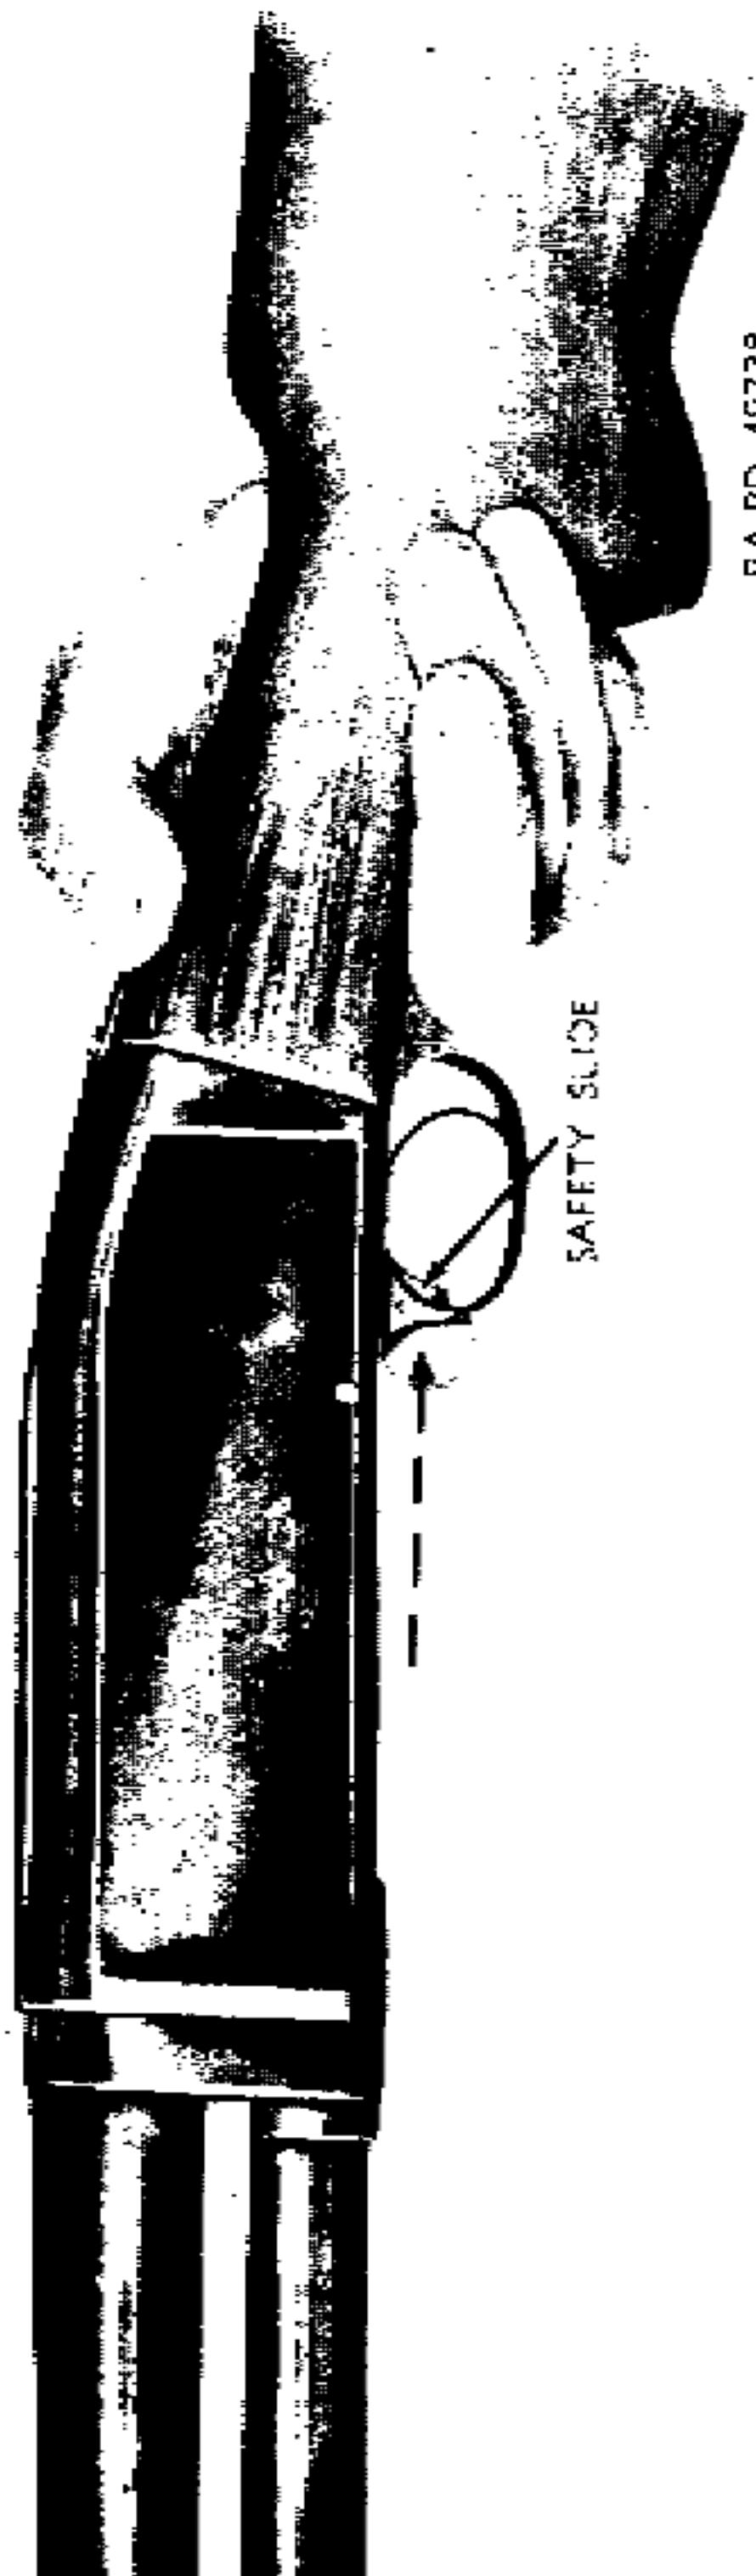

Figure 75—Engaging Safety Slide—Remington Shotgun M10
d. The trigger safety slide positioned in the forward end of the trigger guard bow operates longitudinally (figs. 75 and 76). When pushed to the rear, the trigger is blocked and cannot be pulled to fire the gun. When pushed forward, the trigger is free to be pulled and the gun fired. With a shell in the chamber, it is best to block the trigger by pushing the safety slide to the rear, unless the gun is to be fired immediately. In this gun the safety slide is easily pushed forward with the finger inside the trigger guard bow when the gun is mounted to the shoulder to fire.